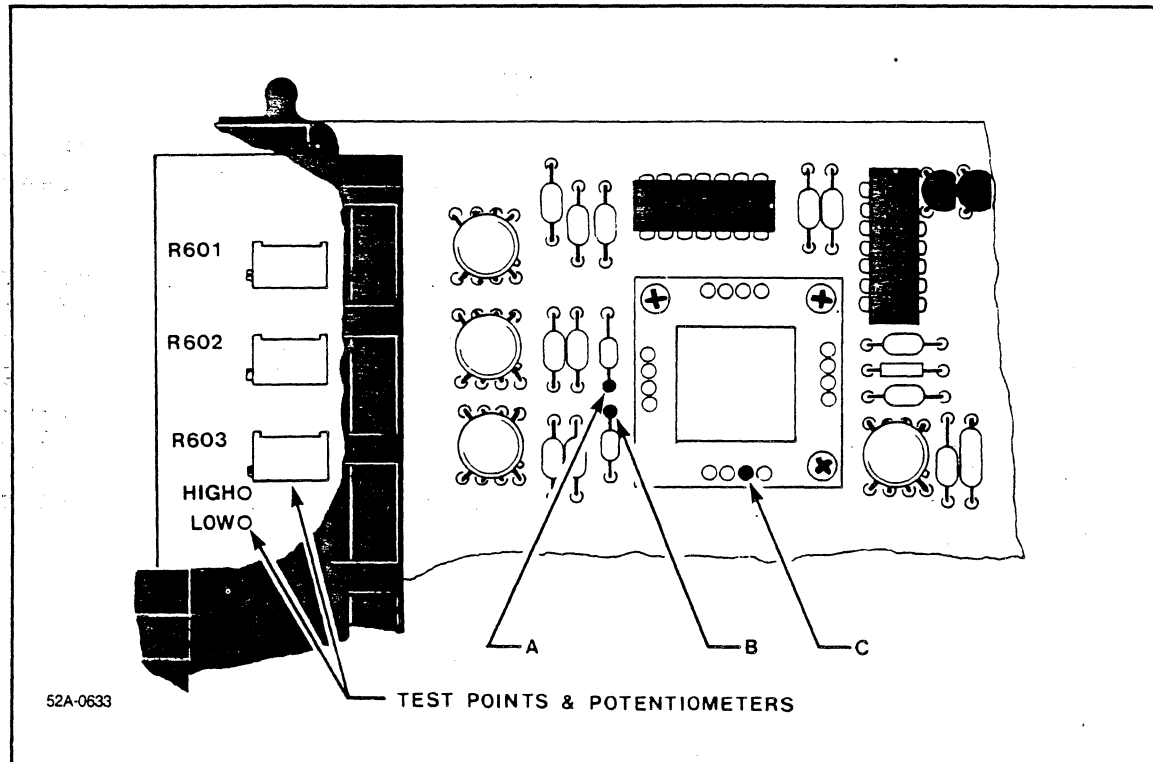

Figure 6-5. LLMUX Test Points and Adjustments
- 3) Set the voltmeter to the lowest voltage range and connect it between points A and C (shown in figure 6-5) on the LLMUX card.
- 5) Connect the voltmeter between points B and C (shown in figure 6-5).